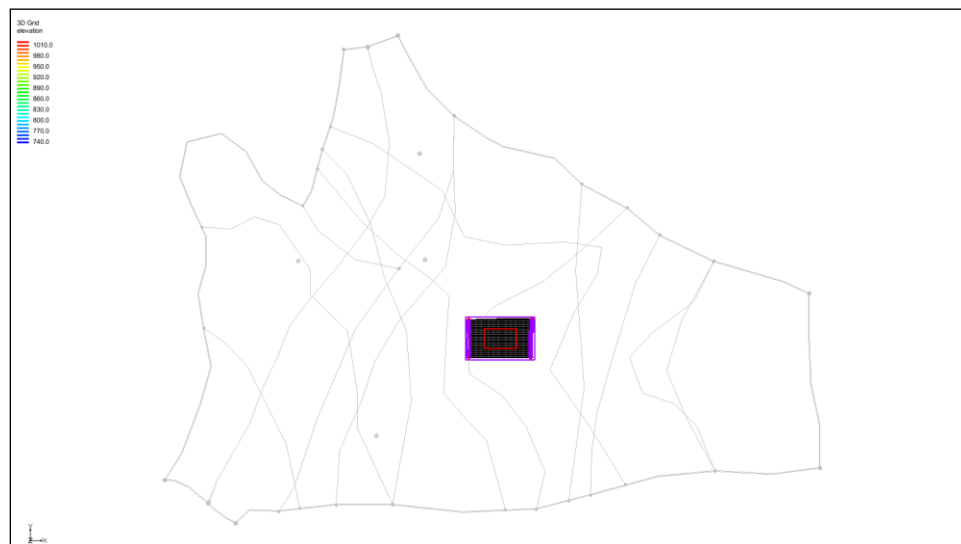

Figure 8 After the scatter point set is turned off
5. Turn off "2D Scatter Data" folder to make it easier to see the other information (Figure 8).